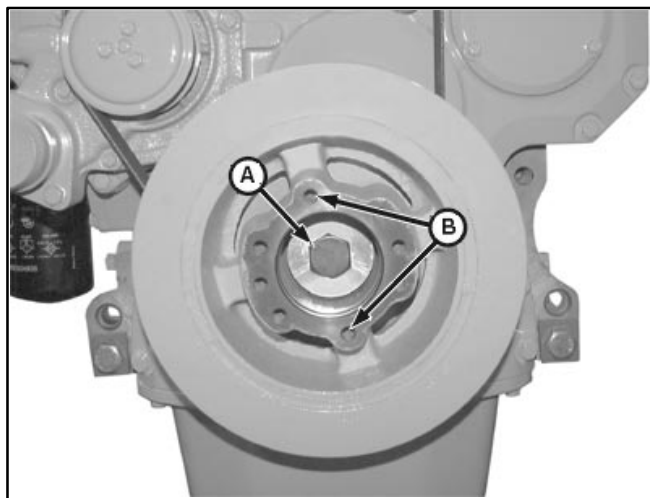

FIGURE 7-28. PULLEY / VIBRATION DAMPER
1. Remove the pulley (4-cylinder) or pulley/damper (6-cylinder). See Figure 7-28.